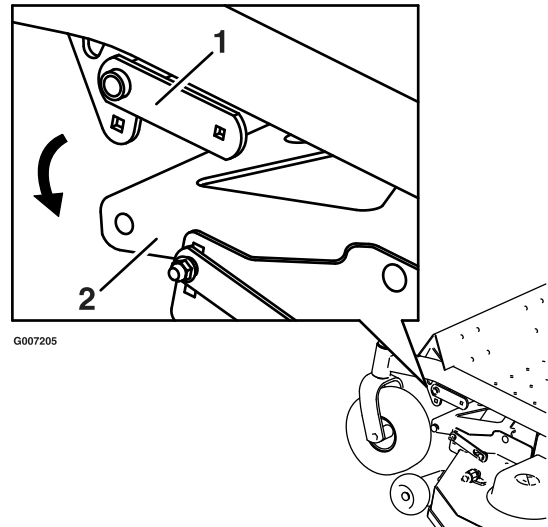
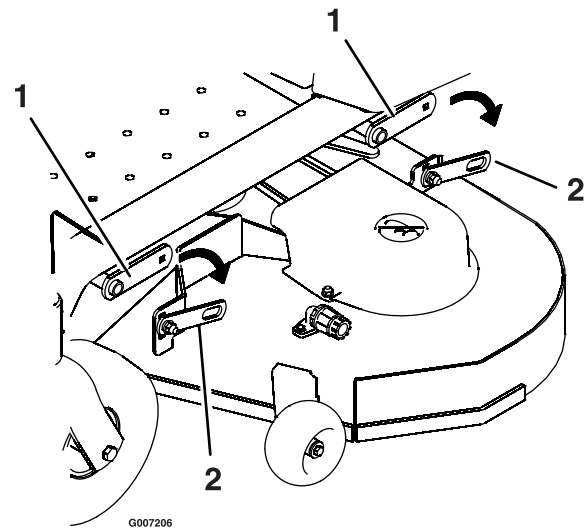

Figure 47
Figure 48
- Remove the hardware from the deck hanger and deck lift arm on both sides of the deck (Figure 47).
- Remove the nut, bolt, and pivot bushing from the deck strut (Figure 47). Carefully lower the front of the mower deck to the ground (Figure 48).
5. Use the existing hardware to attach the rear deck strut of the mower to the deck lift arm (Figure 48).
6. Attach the hardware from the deck hanger and deck lift arm on both sides of the deck (Figure 47).